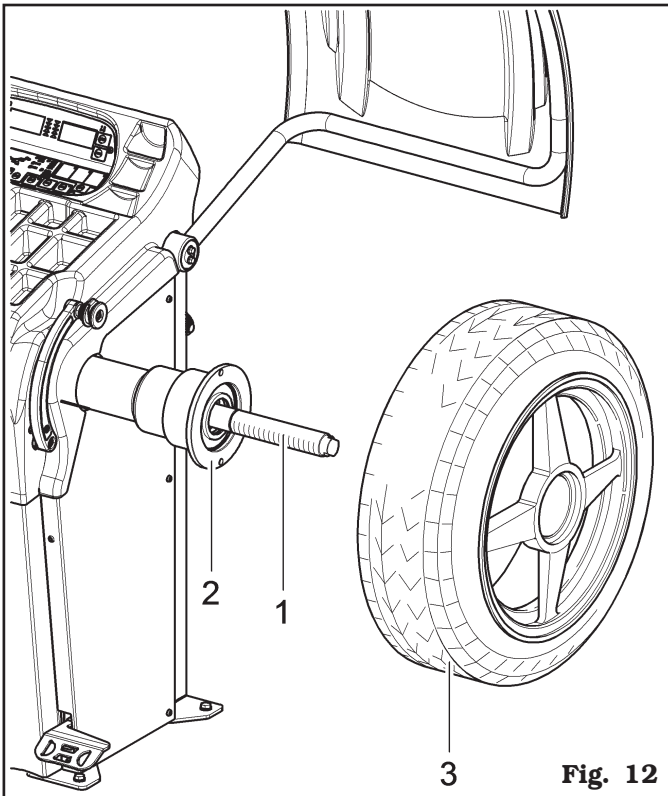

Fig. 12
5. Clean the mandrel (**Fig. 12 ref. 1**) before fitting the wheel.
6. Fit the wheel (**Fig. 12 ref. 3**) with the inside of the rim towards the wheel balancer, until the wheel is up against the support flange (**Fig. 12 ref. 2**).